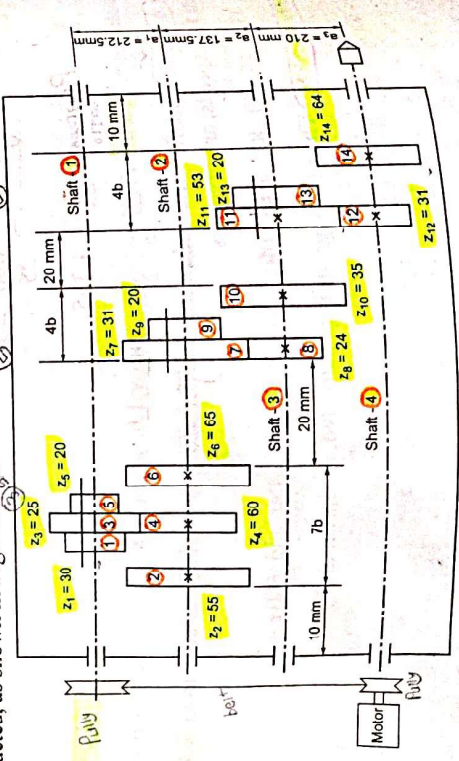

Fig. 9.22. Kinematic arrangement for 12 speed gear box
3. Kinematic arrangement: The kinematic arrangement for the given 12 speed gear box is constructed, as shown in Fig. 9.22.